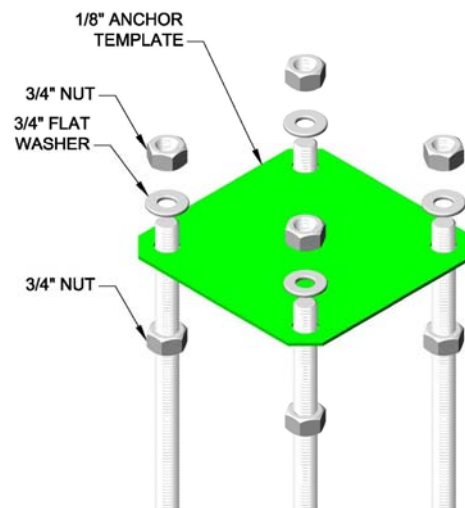

FIGURE 7
- Install a $\frac{3}{4}$ " nut (Item 12B) onto each anchor rod (Item 7). Screw the nut onto the rod $4\frac{1}{4}$ ". Make sure $4\frac{1}{4}$ " of thread is exposed above the nut. (Figure 7)